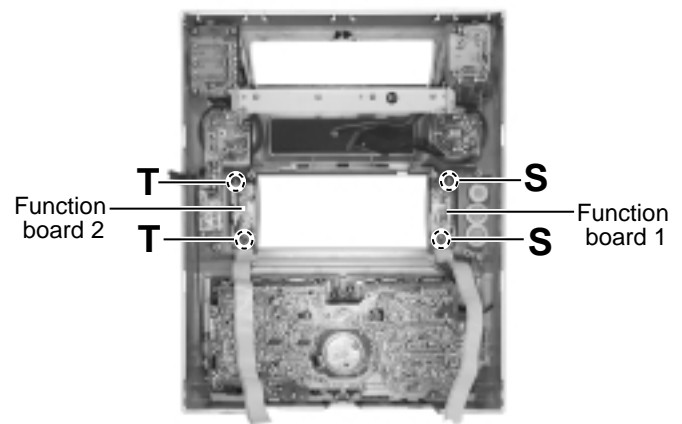

Fig.18
■ Removing the boards in the front panel assembly (See Fig.18 to 20)
— Function board1 (See Fig.18)—
— Function board2 (See Fig.18)—